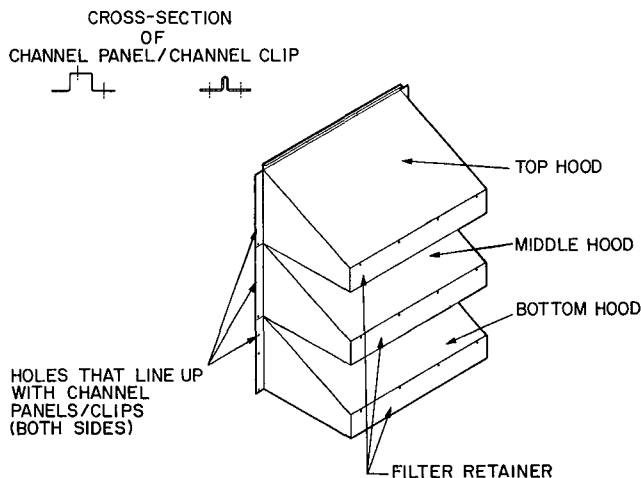

**Fig. 10 — Economizer Hood Assembly Holes**
- 2 channel panels } See Fig. 10 for cross-section
7. See Fig. 10 and insert the capscrew bolts through the flange holes as shown, from the back side, threads facing outward. Note that though there are 12 holes (4 per hood) per side, only the 3 shown per side are to be used.